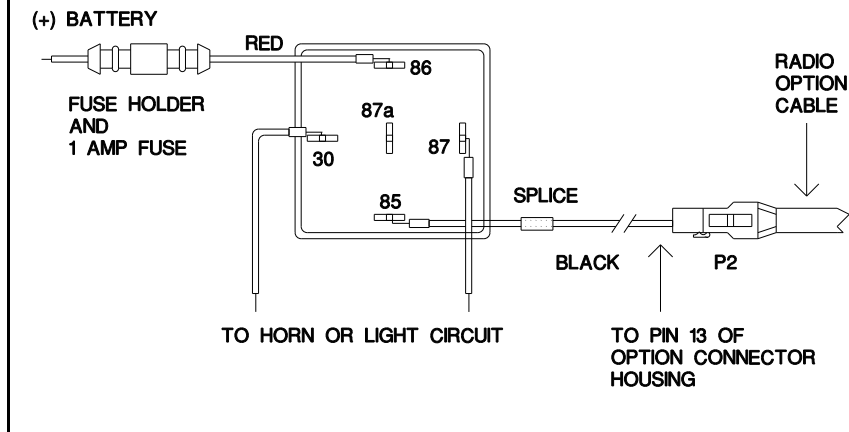

Figure 11 - External Alarm Relay
3. Crimp an insulated 1/4 inch spade tab receptacle to one end of the #18 red wire. Connect the receptacle to relay lug #86. Cut the red lead so the fuse assembly is close to the voltage source. Install the fuse holder. Attach the other end of the fuse lead to the voltage source with appropriate hardware. See Figure 11.